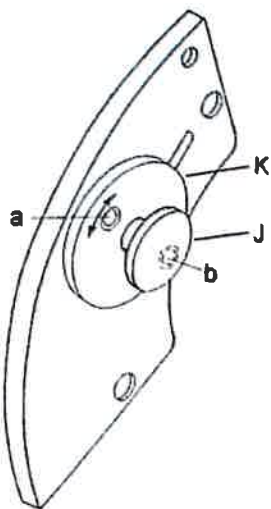

Fig. 4
Two thread (hole a): Loosen screw (J, Fig. 4). Turn regulator (K) clockwise to increase thread feed, or counterclockwise to reduce it.
Three thread (hole b): Loosen screw (J, Fig. 4). Turn regulator (K) clockwise to reduce thread feed, or counterclockwise to increase.